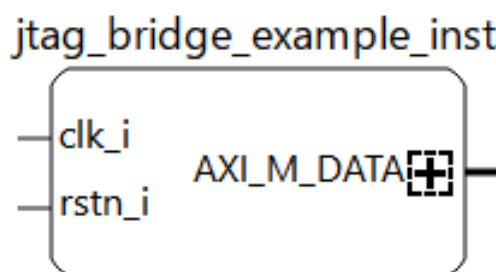

Figure 3.5. Generated Instance
- The JTAG Bridge IP instance is successfully generated, as shown in Figure 3.5.